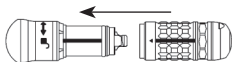

Figure 3
3. Rotate attachment in direction of arrow on handpiece to align arrow on attachment with lock symbol (Figure 3).